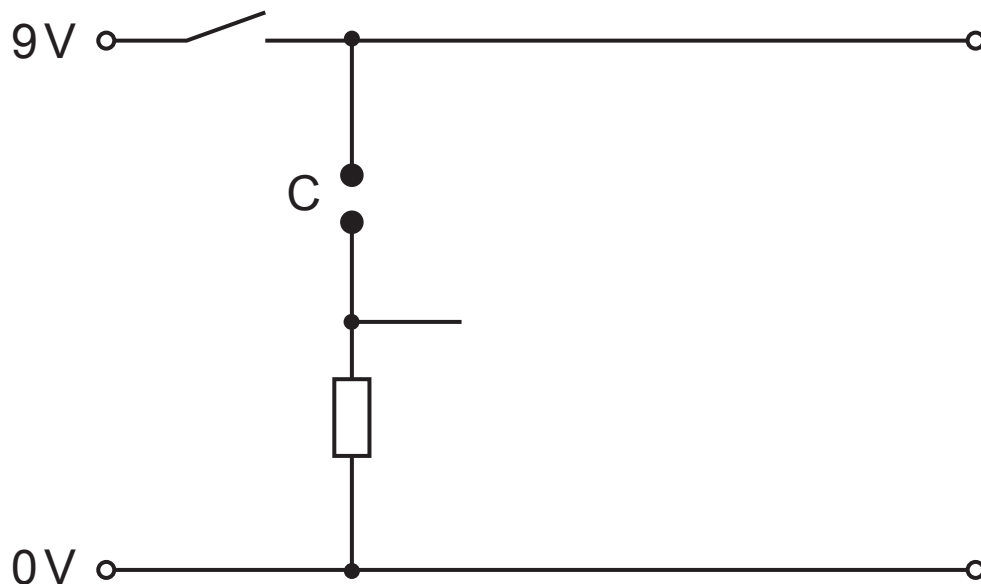

Fig. 6
(e) Fig. 6 shows a circuit under construction.
- (ii) Name the component symbol labelled C in Fig. 6. [1 mark]